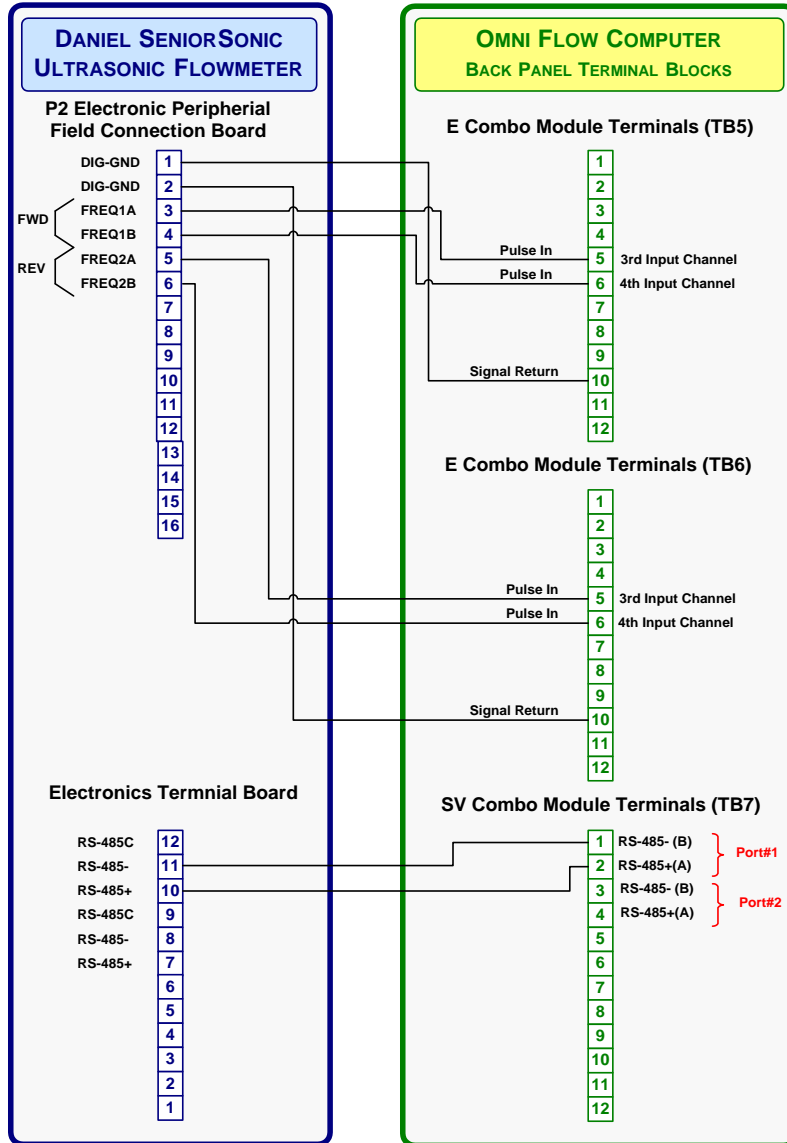

Figure 4. Daniel SeniorSonic 3400
Figure 4 is a typical wiring installation between the SeniorSonic with P2 of the connection board # 3-3400-017 and an OMNI 6000 for serial data and both forward and reverse flow signals, with connections for pulse fidelity and integrity checking. Figure 4 assumes that the OMNI 6000 has two (2) E modules in slots TB5 and TB6, and an SV module in slot TB7.
Example of wiring a Daniel SeniorSonic 3400 ultrasonic flowmeter (Figure 4) to an OMNI 6000 Flow Computer with connections for serial data, live forward reverse flow signals, pulse fidelity, and integrity checking.